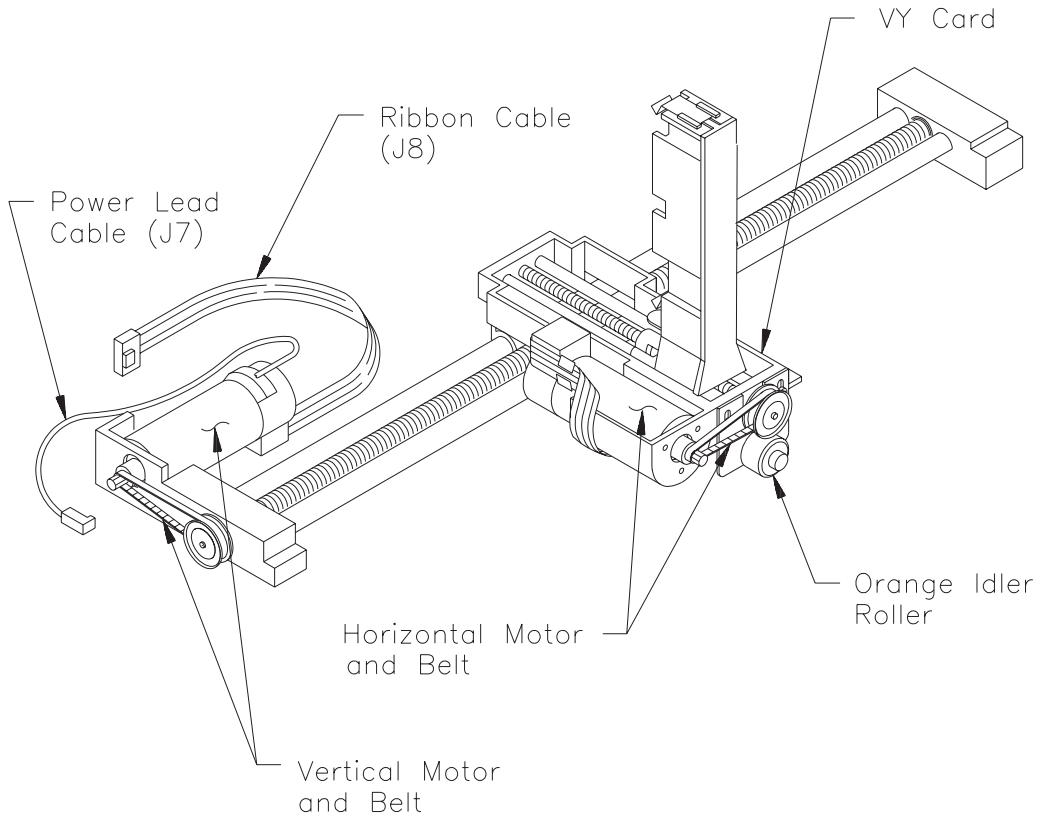

Figure 11-4 CHM removed from the CHS
- b. Push the CHM toward the back of the CHS so that the orange idler roller (shown in Figure 11-4) clears from the metal idler roller guide.
10. Pull the CHM out of the chassis. Lay the CHM flat, with the grab base pointing up, as shown in Figure 11-4.